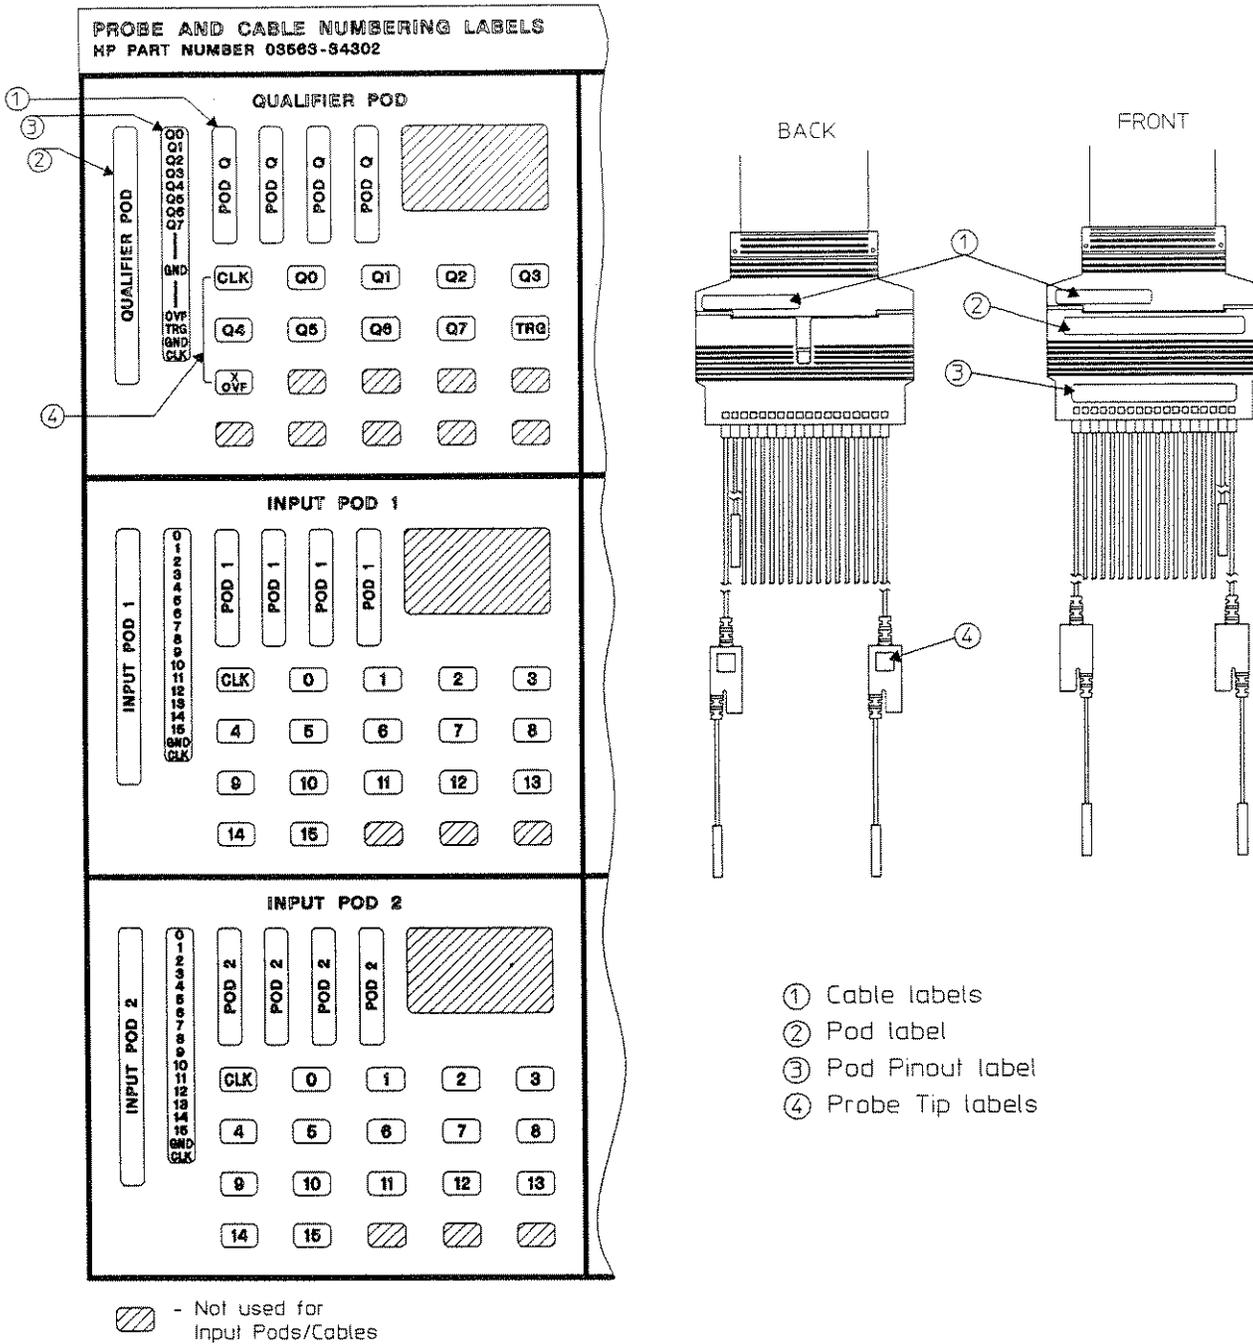

Figure 5-3. Input Probes, Cable and Labels
1. Refer to Figure 5-3.
2. Install the Cable labels shown as #1 in Figure 5-3. Four labels are provided so you can mark both ends of the cable.
3. Install the Pod label shown as #2 in Figure 5-3.
4. Install the Pod Pinout label shown as #3 in Figure 5-3.
5. Install the Probe Tip labels, shown as #4 in Figure 5-3, to match the pinouts on the Pod Pinout label (#3).